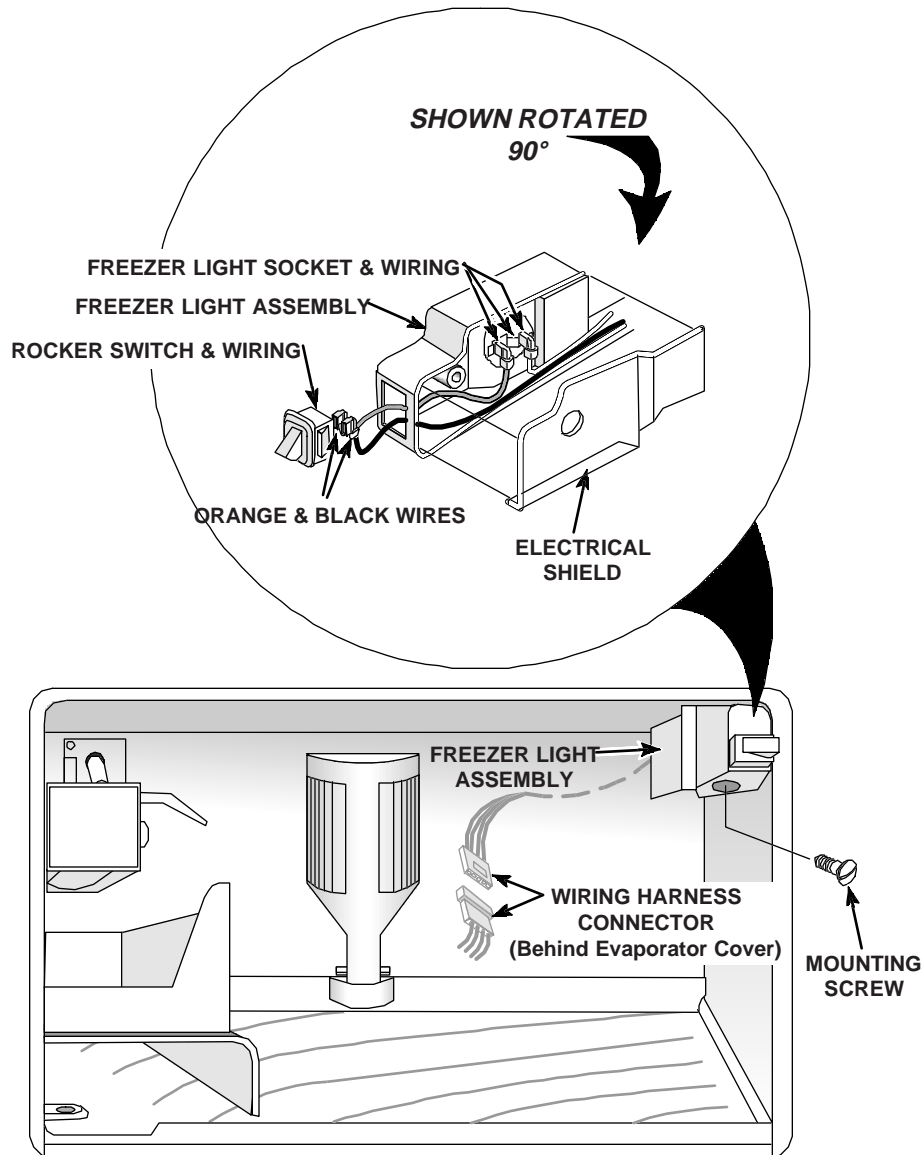

Fig. 74
1. Remove the screw from the bottom of the freezer light assembly. (Fig. 74) Drop the assembly down to work on the components inside the assembly. The wiring harness will remain attached at this point.